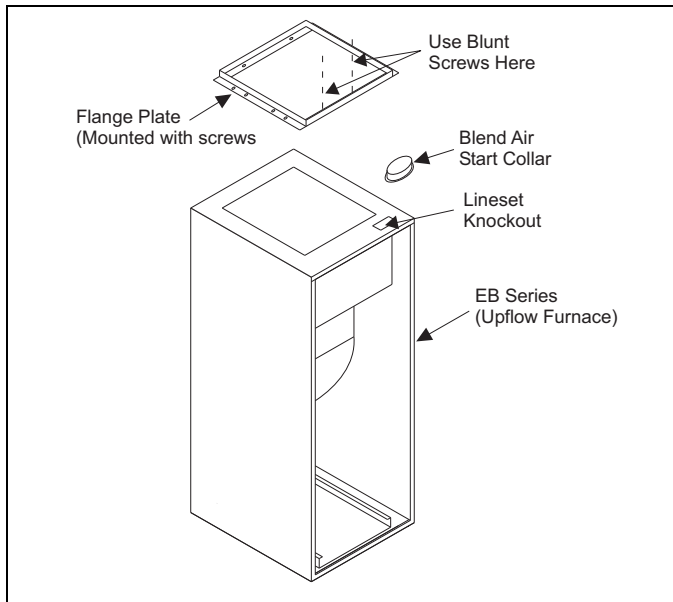

FIGURE 11: Blower Bracket and Duct Flange Attachment
8. Install the duct flange plate on top of the inverted furnace as shown in Figure 11.
10. Flange plate shipped with 3500-7211* is mounted to the furnace with eight (8) screws provided. Two (2) blunt screws are for the holes in the front of the furnace. See Figure 11.